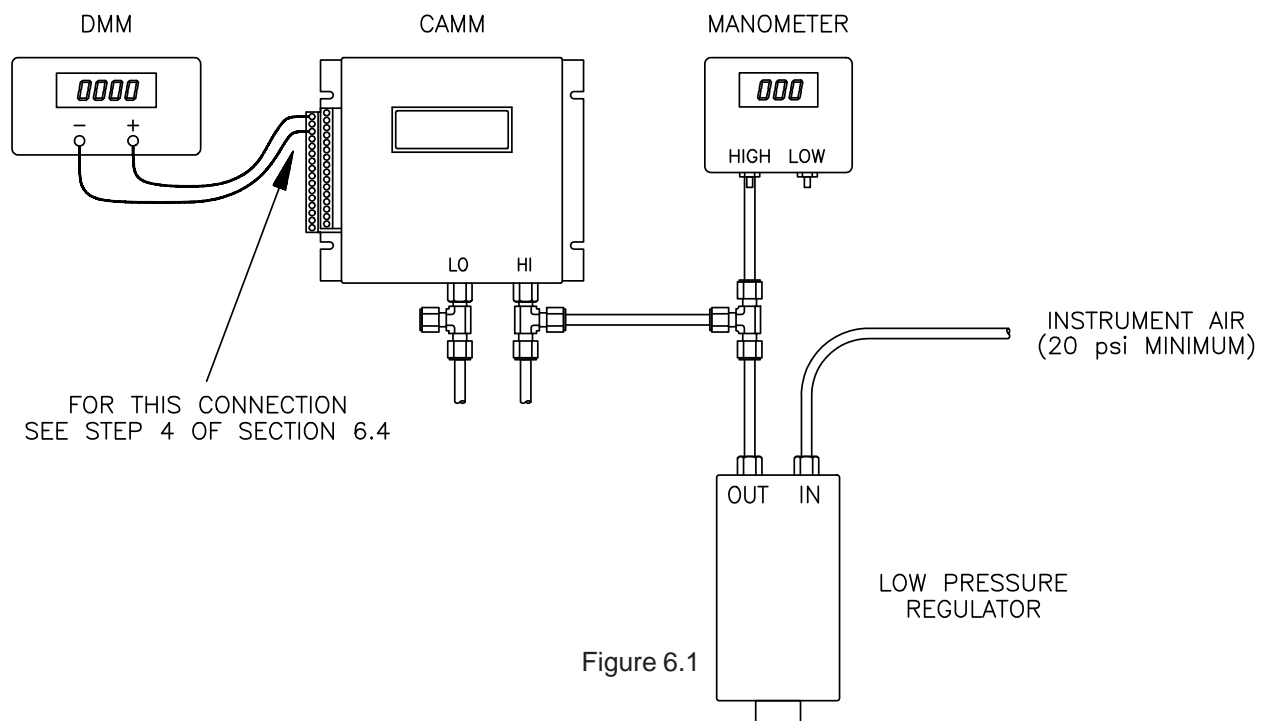

Figure 6.1
5. Prepare test equipment as shown in Figure 6.1.